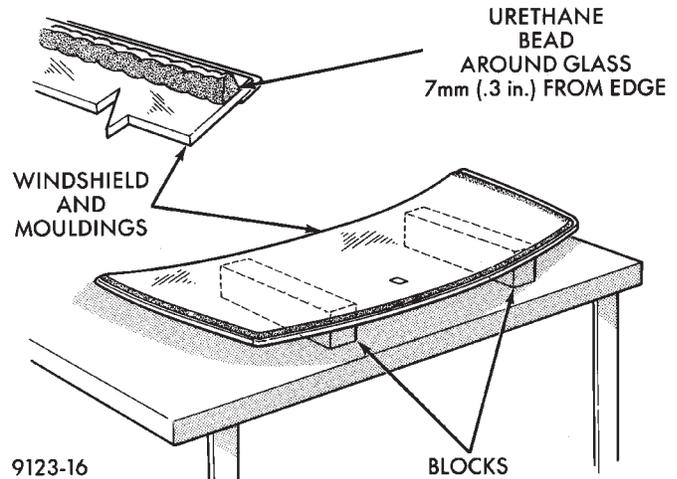
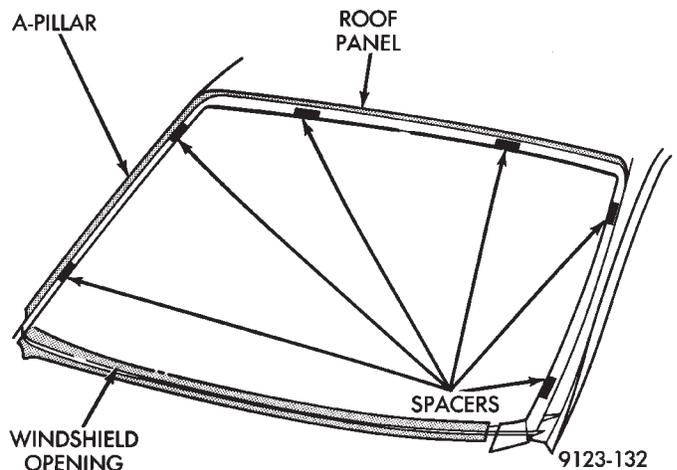
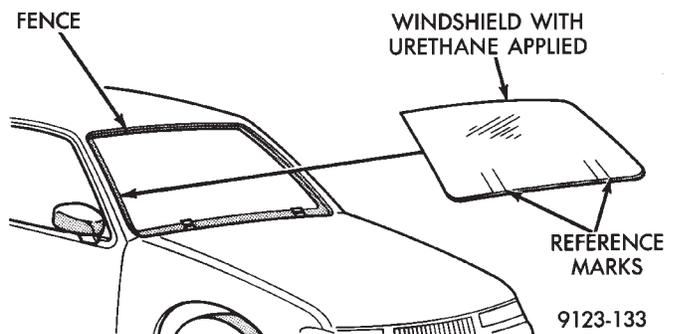

Fig. 4 Work Surface Set up and Molding Installation
Fig. 5 Position Urethane Compression Spacers
Fig. 6 Lower Windshield Into Position
(2) Position the windshield inside up on a suitable work surface with two padded, wood 10 cm by 10 cm by 50 cm (4 in. by 4 in. by 20 in.) blocks, placed parallel 75 cm (2.5 ft.) apart (Fig. 4).
(3) Clean inside of windshield with Mopar® Glass Cleaner and lint-free cloth.
(4) Apply clear glass primer 25 mm (1 in.) wide around perimeter of windshield and wipe with clean/dry lint-free cloth.
(5) Apply black-out primer 15 mm (.75 in.) wide on top and sides of windshield and 25 mm (1 in.) on bottom of windshield. Allow at least three minutes drying time.
(6) Position windshield bonding compression spacers on lower fence above the support spacers at the edge of the windshield opening (Fig. 5).
(7) Apply a 10 mm (0.4 in.) bead of urethane around perimeter of windshield along the inside of the moldings.
(8) With the aid of a helper, position the windshield over the windshield opening. Align the reference marks at the bottom of the windshield to the support spacers.
(9) Slowly lower windshield glass to windshield opening fence. Guide the top molding into proper position if necessary. Push windshield inward to fence spacers at bottom and until top molding is flush to roof line (Fig. 6).
(10) Clean access urethane from exterior with Mopar®, Super Clean or equivalent.
(11) Install windshield molding. Apply 150 mm (6 in.) lengths of 50 mm (2 in.) masking tape spaced 250 mm (10 in.) apart to hold molding in place until urethane cures.
(12) Install cowl cover and wipers.
(13) Install inside rear view mirror.
(14) After urethane has cured, remove tape strips and water test windshield to verify repair.